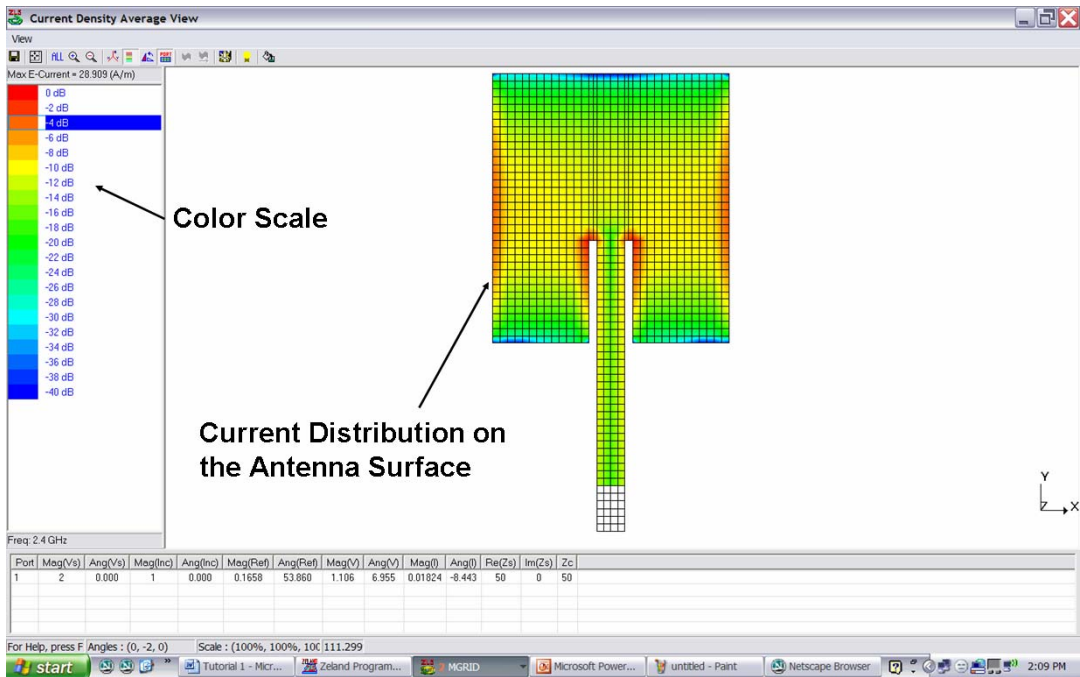

Figure 26.
- 30) In the MGRID view window, go to the Process Menu and select the “Display Current Distribution” item. The “Current Distribution Display Parameters” window pops up. In this window, you can choose the type of current to be displayed, the frequency of the simulation, and change the excitation current amplitude and phase. Do not change anything and click OK. You can see the change in the Structure View Window. The average current density on the surface of the antenna is shown in different colors. This average current distribution is shown in Figure 26. Note the half-sinusoidal current distribution on the surface of the antenna. On the top edge, the current is zero, at the center it is maximum, and on the bottom edge, it is zero again. This indicates a resonance condition. Also note that generally the current density is much higher closer to the edges of the structure compared to other places. This is why it is important to use edge cells in certain problems. The strong edge current densities can significantly affect the response of structures with strong edge couplings (such as edge coupled bandpass microstrip filters).